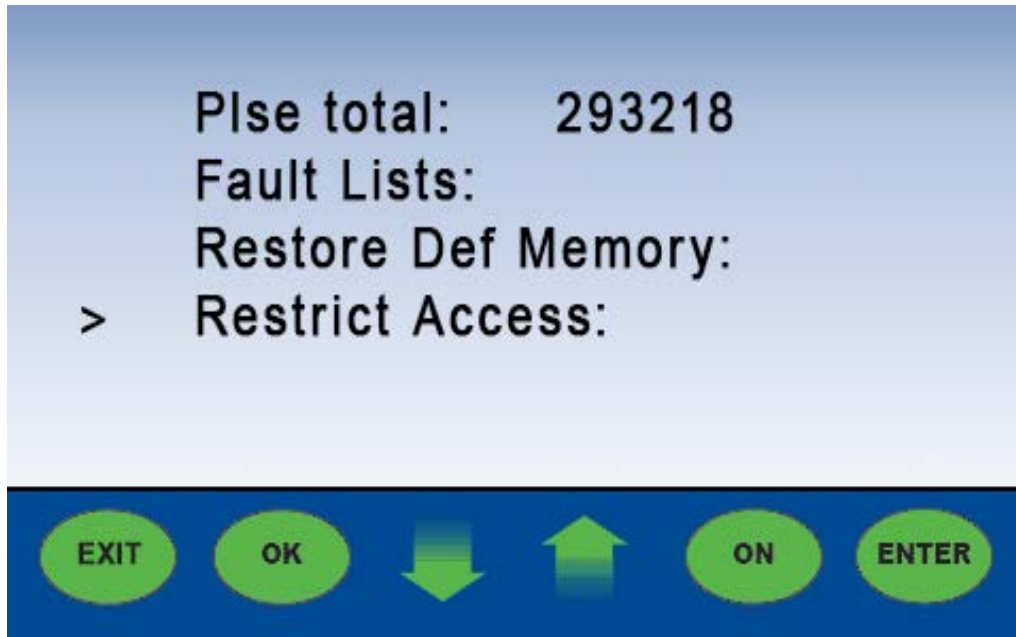

Figure 59
1. Press the **menu button** on the main screen. **(Figure 59 on page 115)**
2. Using the **down arrow**, scroll to “restrict access”. **(Figure 59 on page 115)**
While password protection is enabled, the selectable options on the touchscreen display are restricted; the following buttons remain active (Figure 59 on page 115).
5. Press the **menu button** on the password screen to enter the password and return to the main screen (**Figure 59 on page 115**; password protection is disabled).
12. Press the **exit button** twice (2) to return to main screen (**Figure 59 on page 115**); returns to the main menu screen and locks the parameters on the touchscreen display.